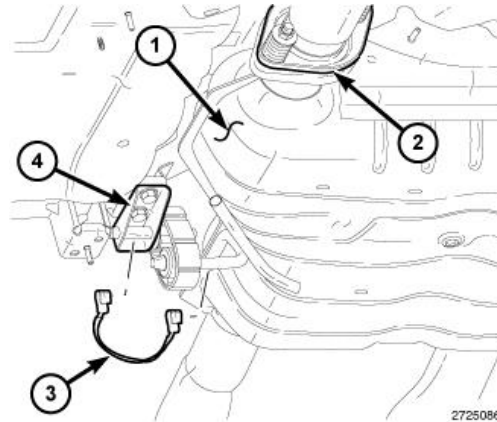

Figure 9 – Tailpipe/Resonator Flange
- 17. If removing with muffler, remove the tailpipe/resonator to muffler assembly flange (2) nuts (Figure 9).